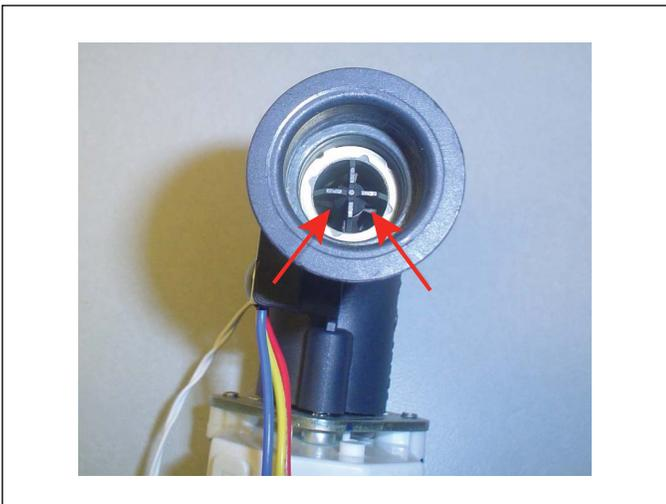

Figure 4
8. Once that is completed, make sure you can blow through the valve freely from the bottom where the cross diverter is (Fig. 4). When you forcefully blow through the valve, you should hear the impeller spinning. If not, use a small pick or similar device to manually move it. It should move freely with no resistance. Any resistance could be signs of buildup inside the valve. Flushing out the valve at this point would be your only way to clear that obstruction. The impeller is not removable on these valves. If it can't spin freely by flushing out the valve or manually rotating it, you may need to replace the valve.